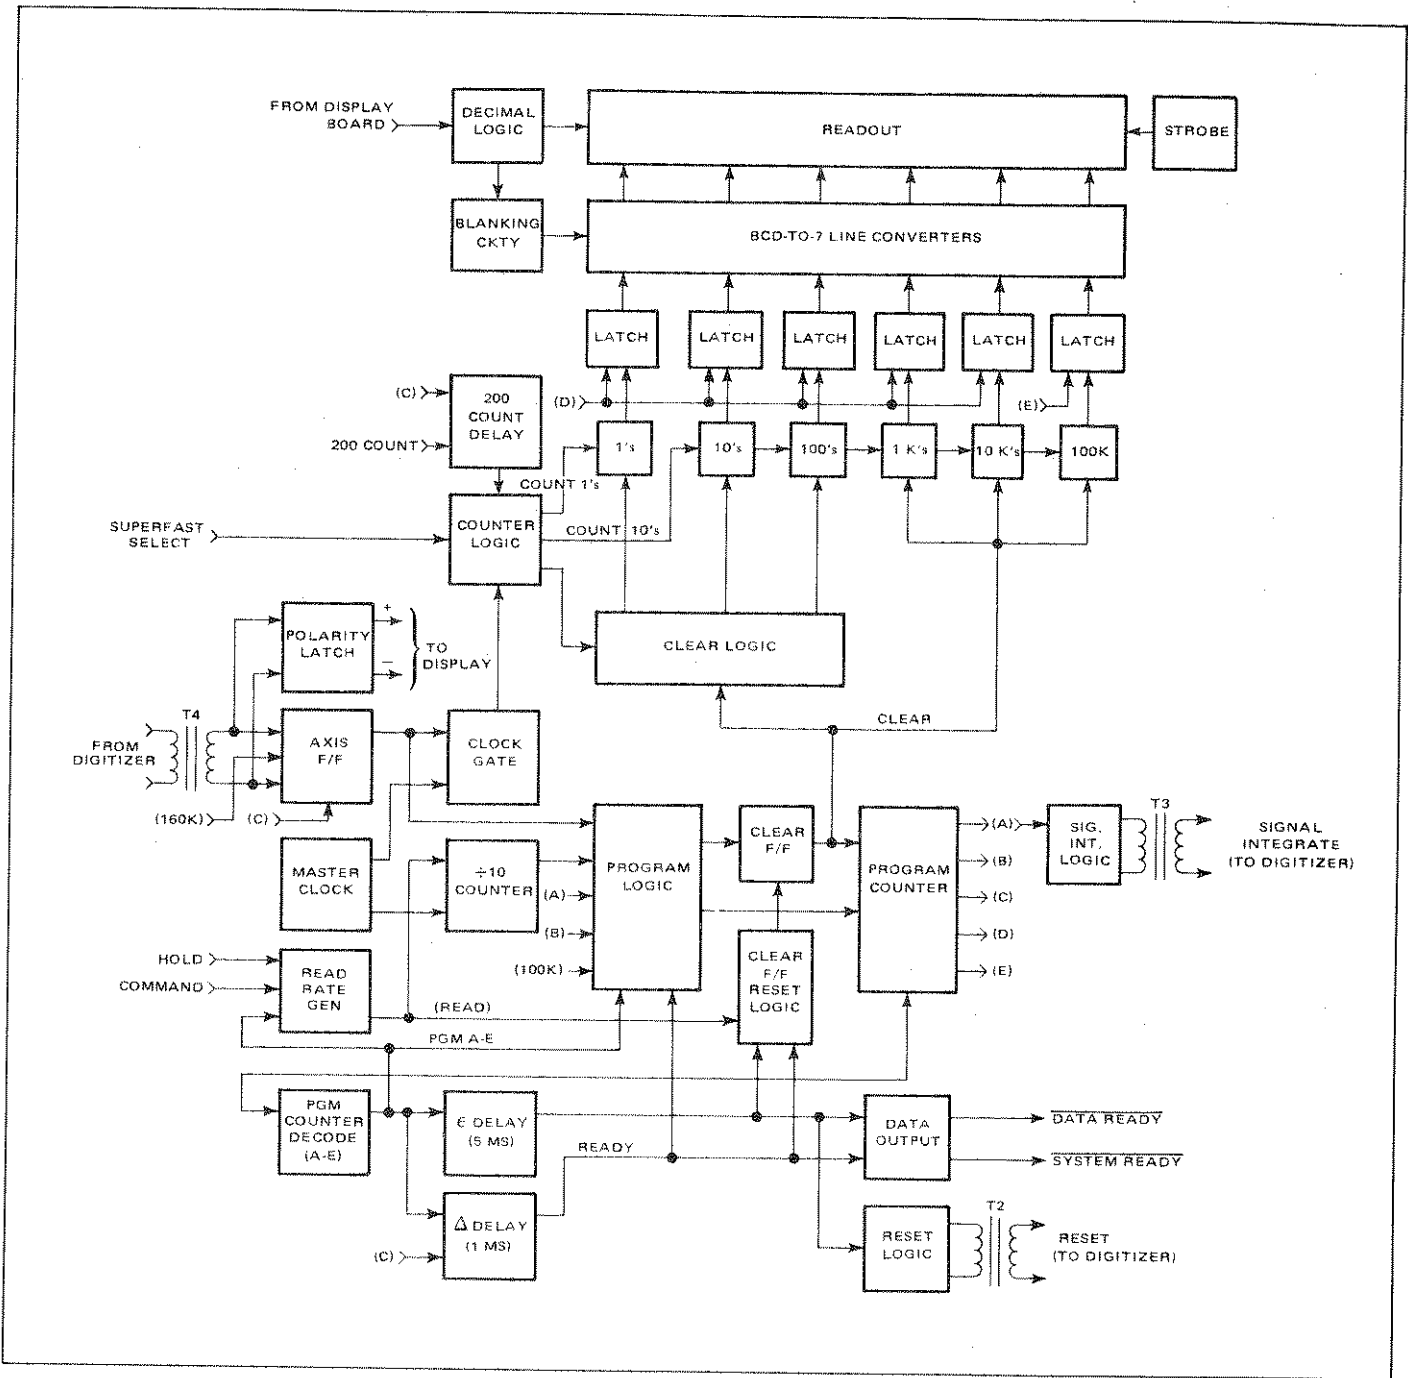

Figure 4.16 - Main Logic & Control Block Diagram
4.71 This circuitry, shown in the block diagram of figure 4.16, is located on the Main Logic board and consists of the control and display logic. In general this circuitry controls all instrument operation including the integration cycle, 'times' the output of the digitizer, and converts this information into data compatible with the Display board.